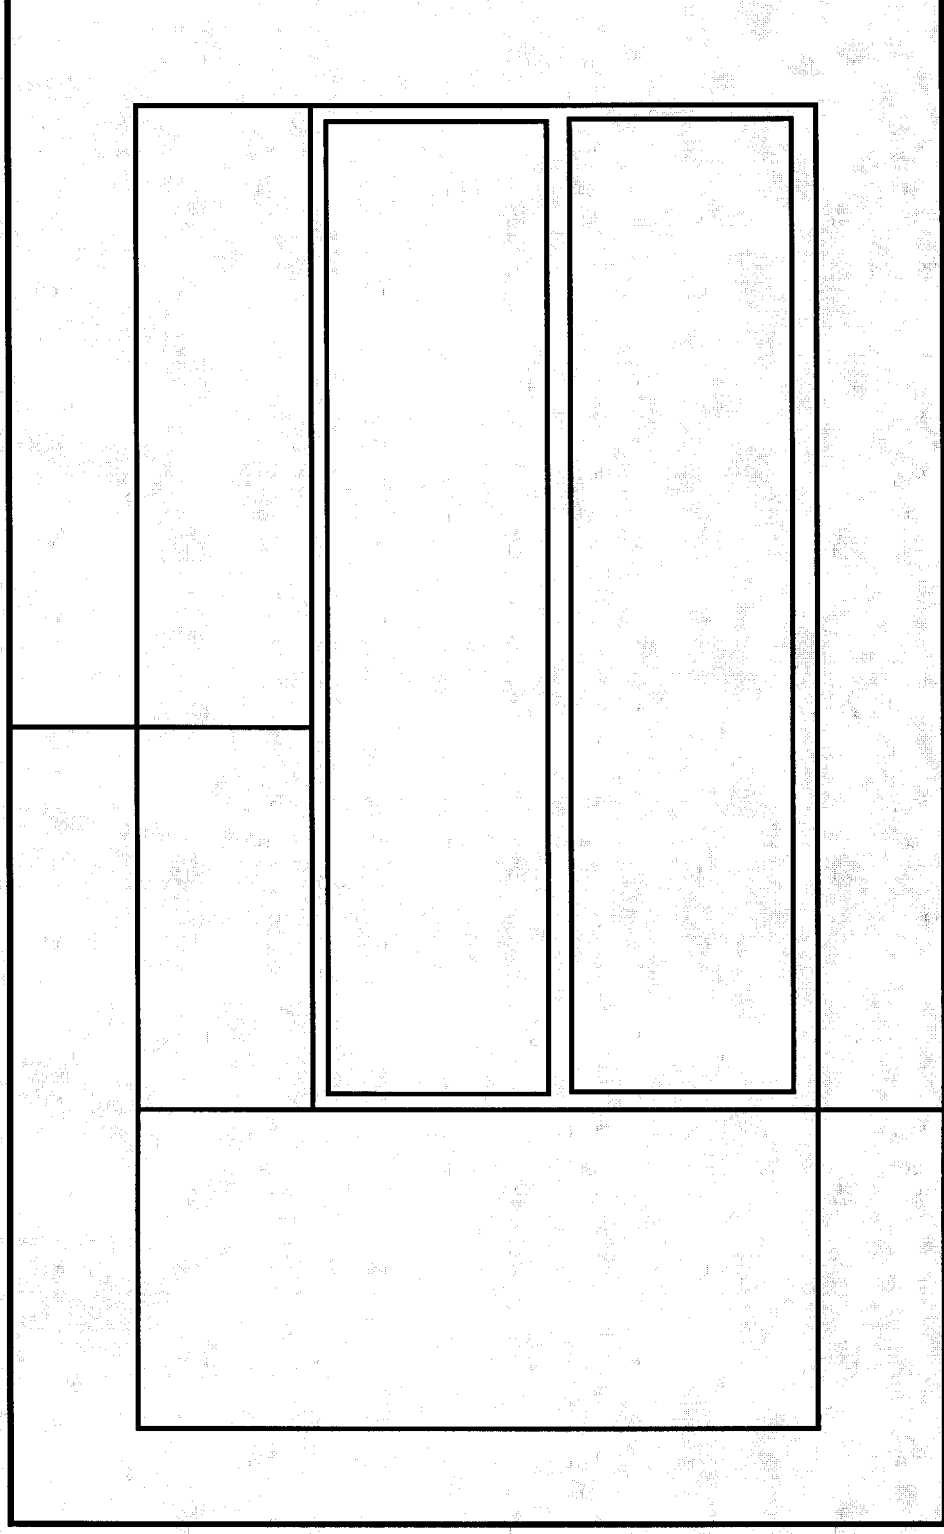

Fig. 1: Typical R&D facility layout
1. Using the attached diagram of a typical R&D facility layout (Fig.1), write where the following should be located: the service vehicles, the parking space for the employees and visitors, the office area, the workshops, store area, low hazards materials, high hazards materials, laboratory, control equipment, high hazard experimental area, and restricted area. **(12 points)**